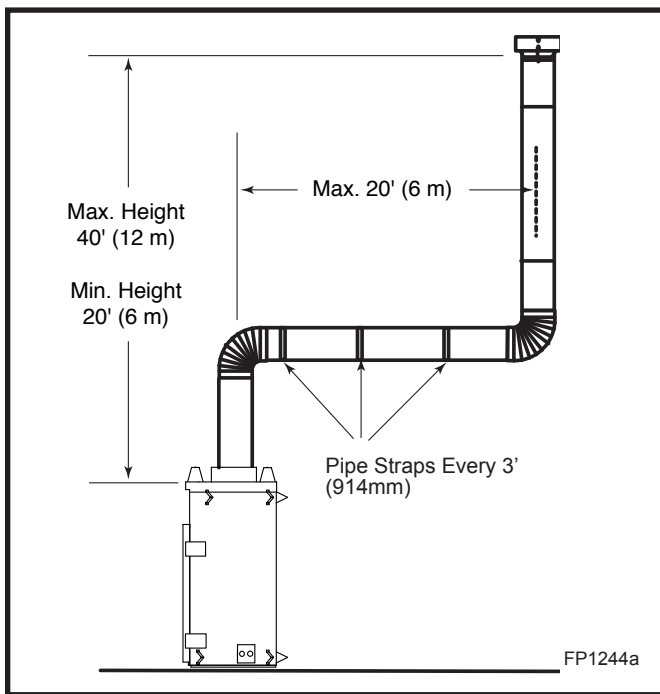

Fig. 29 Support straps for horizontal runs.
- Vertical installations up to 40' (12 m) in height. Up to a 20' (6 m) horizontal vent run can be installed within the vent system using a maximum of three (3) 90° elbows. (Fig. 29)
- A 2' (610 mm) vertical section must be installed before any offset. A maximum of 20' (6.1 m) horizontal and three (3) 90° elbows may be installed with a minimum of 12' (3.66 m) vertical section above the flue collar of the unit. (Fig. 29)